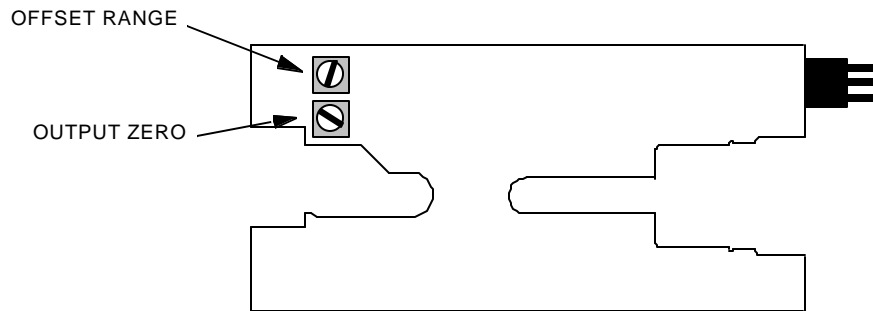

Figure 8-2 Adjustment Locations
6. Adjust **OFFSET ZERO** on the board until the DMM reads 0 V  $\pm$ 100  $\mu$ V. Refer to figure 8-2 for adjustment location.